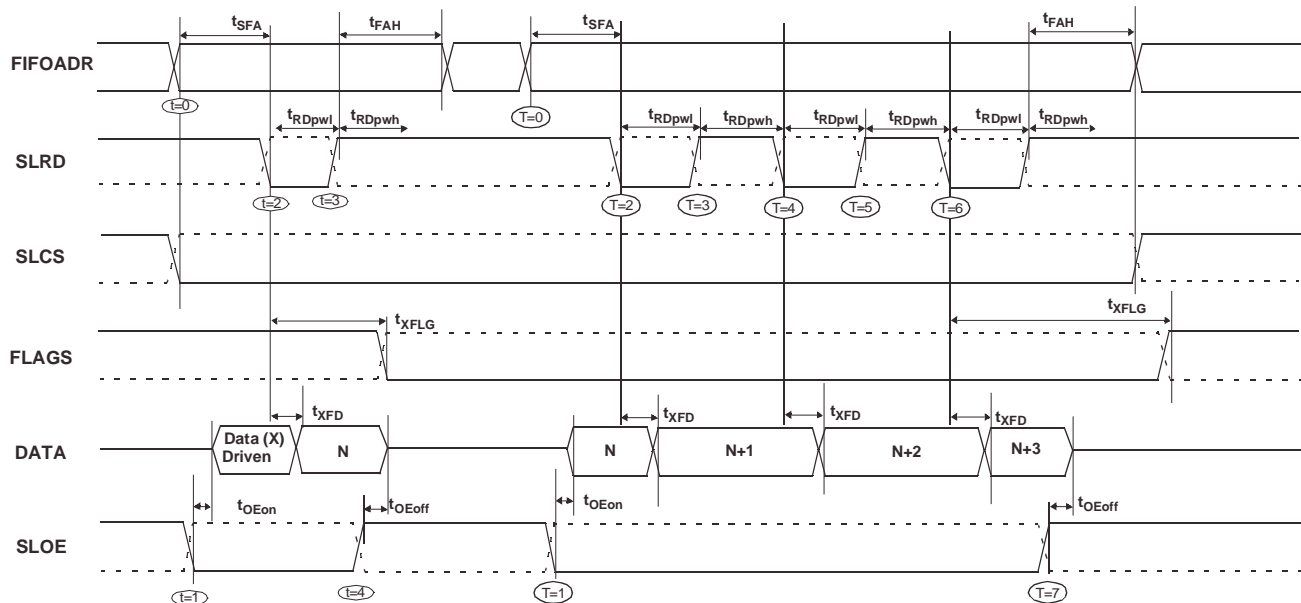

Figure 9-19. Slave FIFO Asynchronous Read Sequence and Timing Diagram
Figure 9-19 diagrams the timing relationship of the SLAVE FIFO signals during an asynchronous FIFO read. It shows a single read followed by a burst read.
- The data that will be driven, after asserting SLRD, is the updated data from the FIFO. This data is valid after a propagation delay of t_{XFD} from the activating edge of SLRD. In Figure 9-19, data N is the first valid data read from the FIFO. For data to appear on the data bus during the read cycle (i.e., SLRD is asserted), SLOE MUST be in an asserted state. SLRD and SLOE can also be tied together.